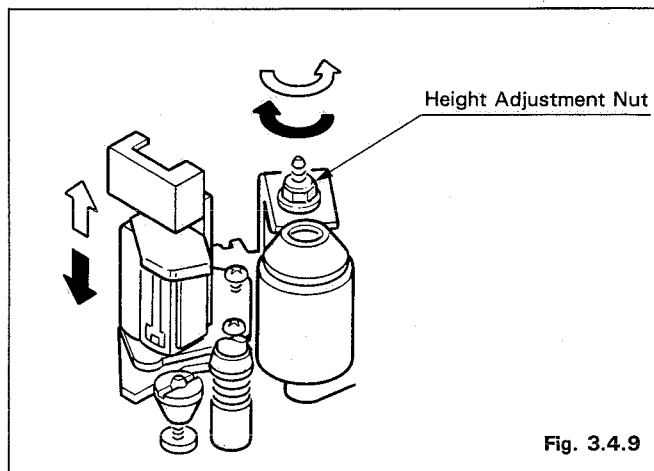

Fig. 3.4.9
- After confirming on the oscilloscope that a 1 KHz sine wave is being output, adjust the height adjustment nut so that the AC voltmeter's reading is brought to its maximum level. (Refer to Fig. 3.4.9)